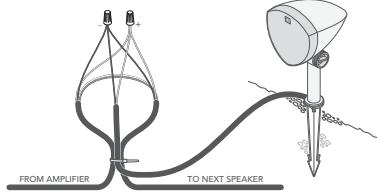

Figure 6
8. Cut the correct two wires for the left or right speaker (see the tables below) and strip 3/4" of insulation on the exposed ends of the burial wires, then strip 3/4" insulation from the ends of the corresponding speaker's pigtail (see Figure 6).
9. Create a loop of approximately 10", and use a wire tie to hold the wire loop and speaker pigtail in place to provide strain relief (see Figure 6).